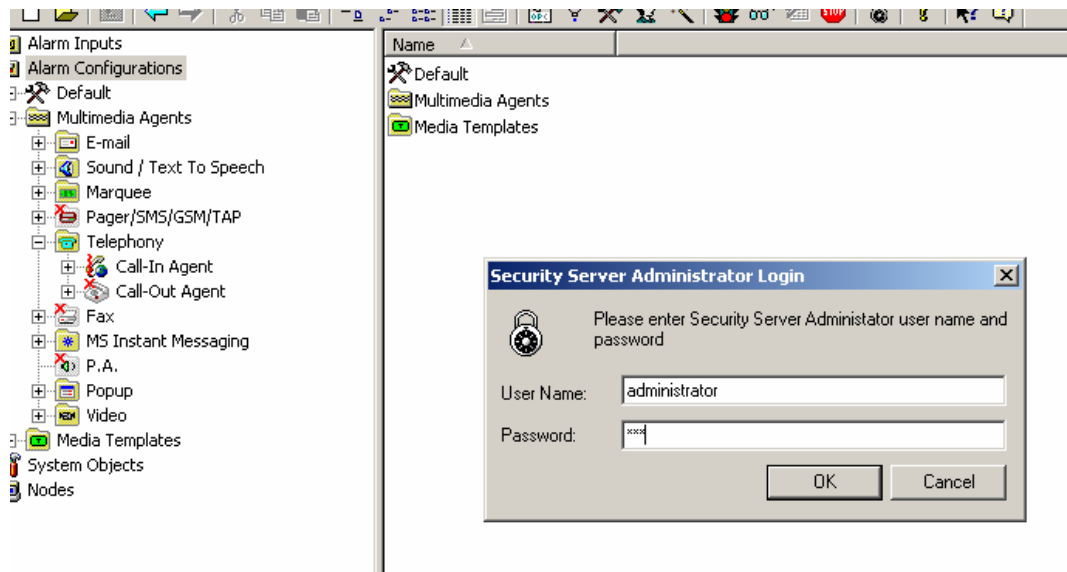

Figure 9.47. Logging Into the Call-in Agent Security Administration Tool
1. Click the **Security Administration** button (lock icon) on the toolbar. The **Security Server Administrator Login** dialog box appears, as shown in **Figure 9.47**. Enter the **Security Server Administrator's** user name and password, and then click the **OK** button.